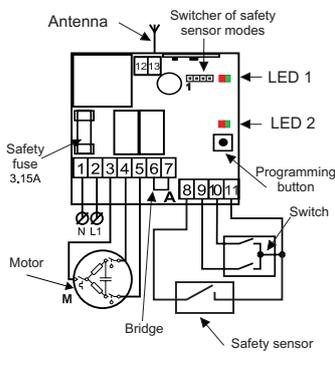

Fig. 1. Connection scheme for Radio 8113 IP65
- Connect a switch (see fig. 1).